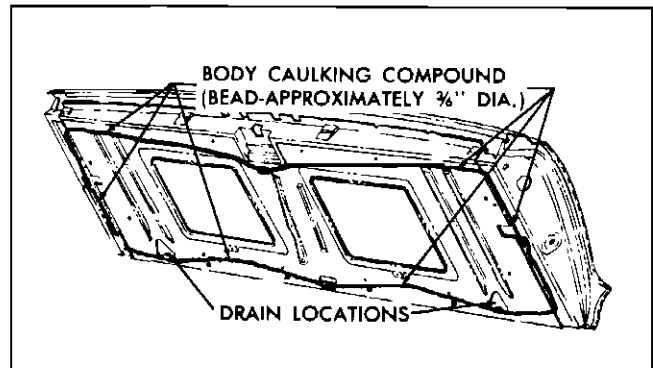

Fig. 4-27 Water Deflector Sealing
3. Apply a bead of body caulking compound (approximately $\frac{3}{16}$ " diameter) to tail gate inner panel along a line as indicated in (Fig. 4-27).